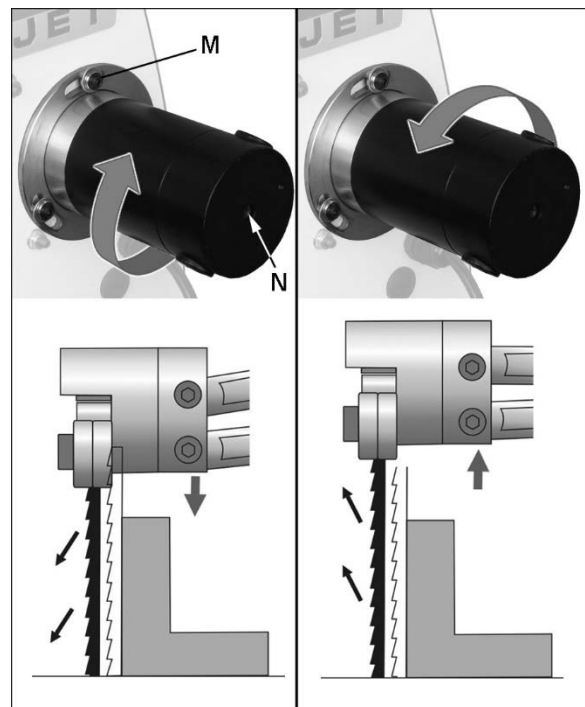

Figure 23: blade oscillation
- Loosen screws on motor flange (M, Figure 23) with 4mm hex wrench. *Only loosen screws enough to allow motor rotation.*
- Turn motor shaft (N, Figure 23) with flat-blade screwdriver to observe blade motion. Alternatively, you may turn on saw to slowest speed to observe blade motion.
6. Slowly rotate entire motor by hand to adjust oscillation. Clockwise rotation will make blade movement more aggressive on downstroke. Counterclockwise will make blade more aggressive on upstroke. See Figure 23.